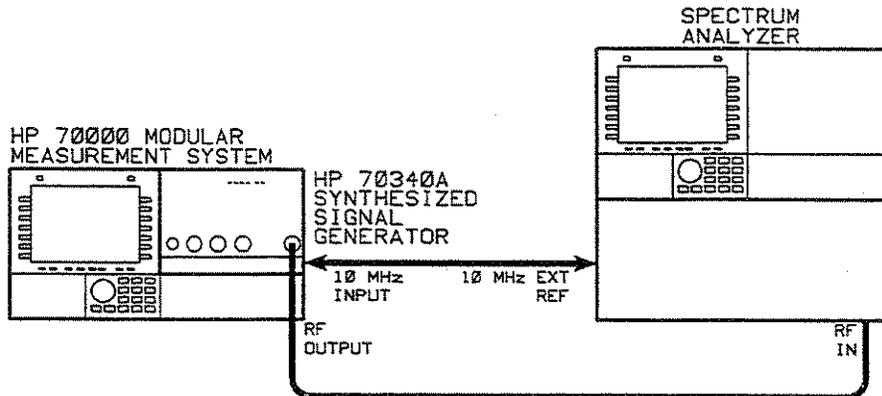

Figure 1-12. Pulse On/Off Ratio Test Setup
1. Connect the equipment as shown in Figure 1-12.